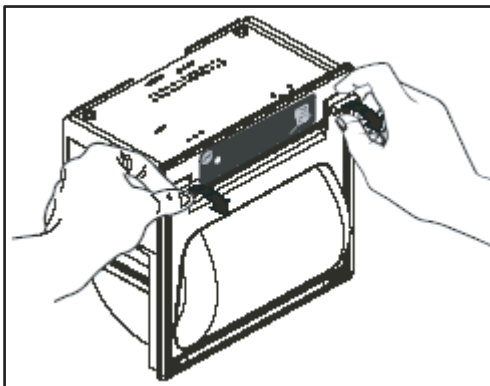

Fig. 28: Opening printer
1. Open the lid of the printer as shown in Fig. 28.